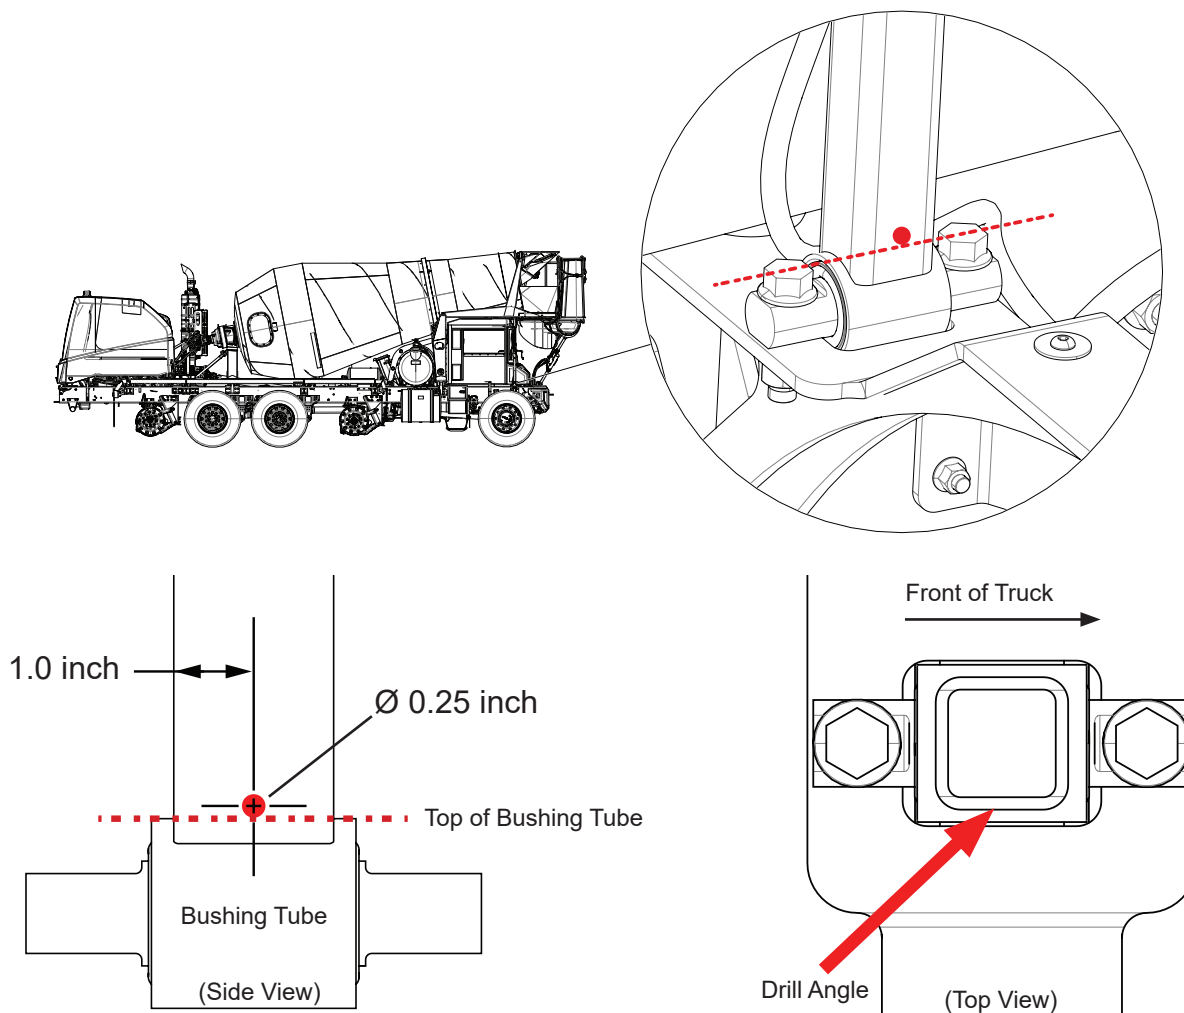

Figure 2 Right-Hand Super Structure Support
4. Measure and mark the drain hole location on the right-hand superstructure support, see Figure 2.
6. Drill drain hole parallel with the ground and angled toward the rear of the truck. See Figure 2.